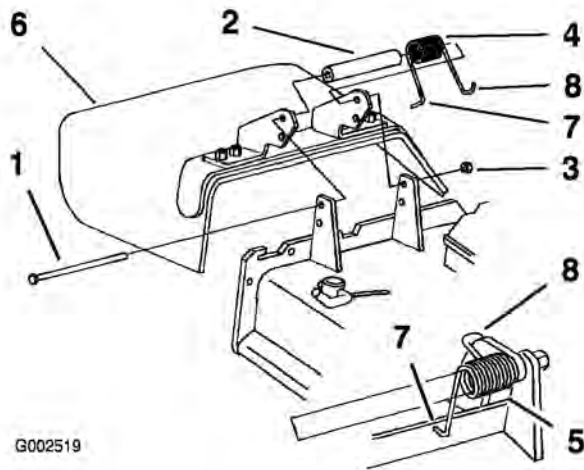

Figure 77
1. Remove the locknut, bolt, spring and spacer holding the deflector to the pivot brackets (Figure 77).
Note: Make sure the L end of the spring is installed behind the deck edge before installing the bolt as shown in Figure 77
5. Place the **J** hook end of the spring around the grass deflector (Figure 77).